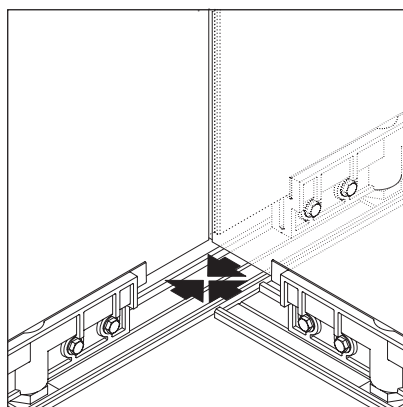

Figure 6 - Fit Panels
6. Remove the release backing from the adjoining in-line panel (Figure 5). Align the pieces of glass and hold them in-plane with a large straight edge and a corner square making sure that any bow in the glass does not make an uneven joint. Slide the panels together to form a bond. Force the panels tightly together to fully nip the tape (Figure 6).